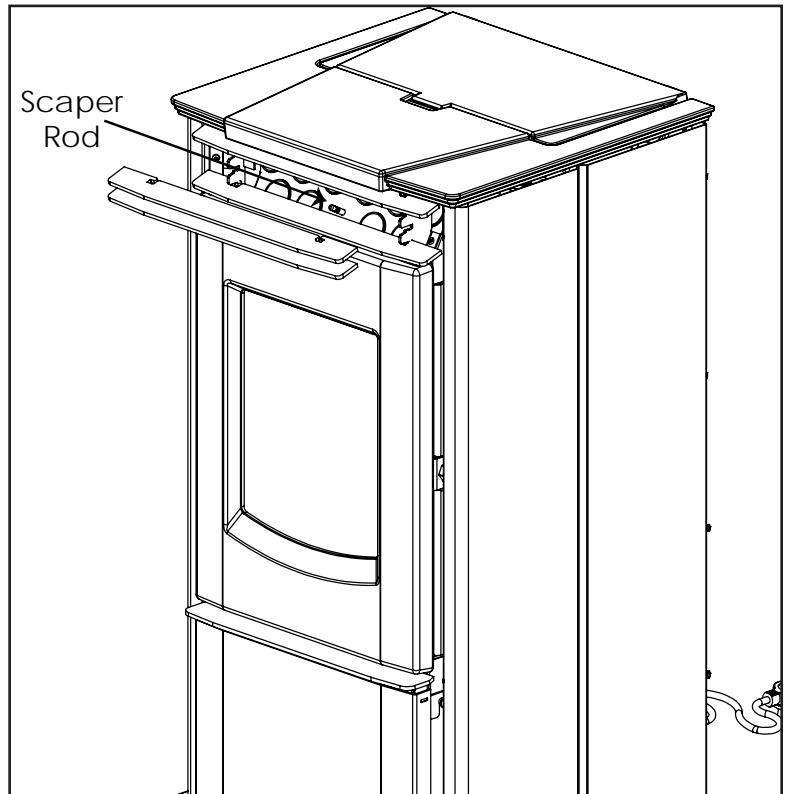

Figure 35: P3 Heat Exchanger Tubes
A rod is located in the center of the stove just above the door behind the top louvers, see Figure 35. This rod is to be pulled up and down a few times (ONLY WHEN THE UNIT IS COLD) in order to clean away any fly ash that may have collected on the heat exchanger tubes. As different types of pellets produce different amounts of ash, cleaning of the tubes should be done on a regular basis to enable the unit to run efficiently. Do not pull on rod excessively if it is not sliding. If stuck inspect rod for bend and try and free up scraper plate from inside firebox.
- Pull out the Scaper Rod shown in Figure 35 in order to remove any fly ash that may have collected on the heat exchanger tubes. This will allow for optimal heat transfer to convection air.